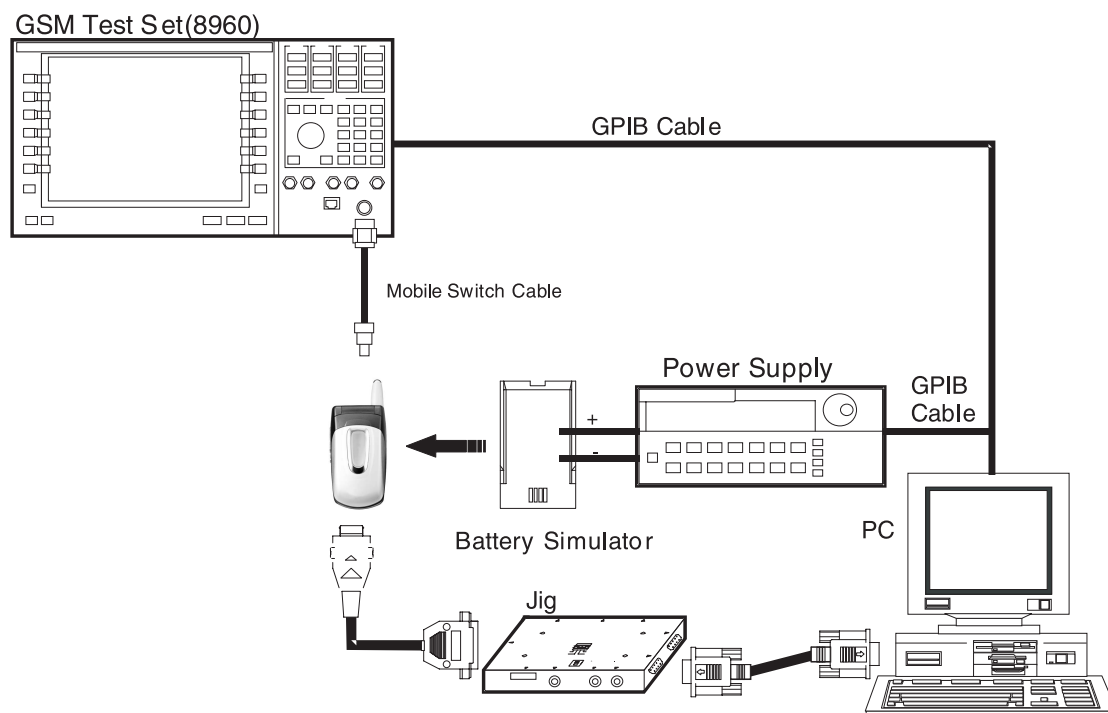

Figure 6-2.
1. Connect as Fig 6-2(RS232 serial cable is connected between COM port of PC and MON port of TEST JIG, in general)